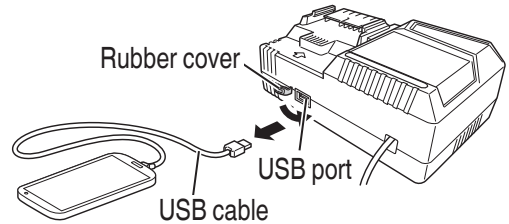

Fig. 10
- (3) When charging is completed
- Unplug the power cord from the electrical outlet. (Fig. 10)